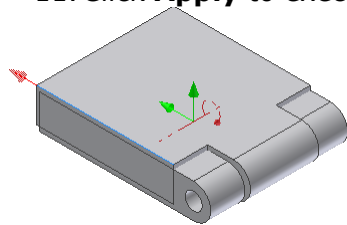

Figure 1.5
8. Select the top edge of Plate 1:1 as shown in Figure 1.5.